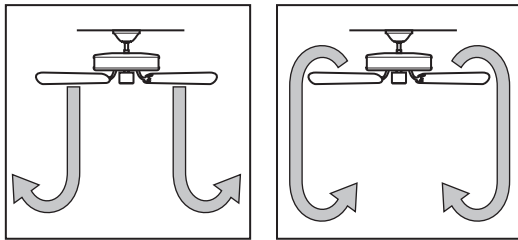

Figure 31 - Air flow patterns
4. Ceiling fans work best by blowing air downward (counterclockwise blade rotation) in warm weather to cool the room with a direct breeze. In winter, having the fan draw air upward (clockwise blade rotation) will distribute the warmer air trapped at the ceiling around the room without causing a draft. Refer to Figure 31.